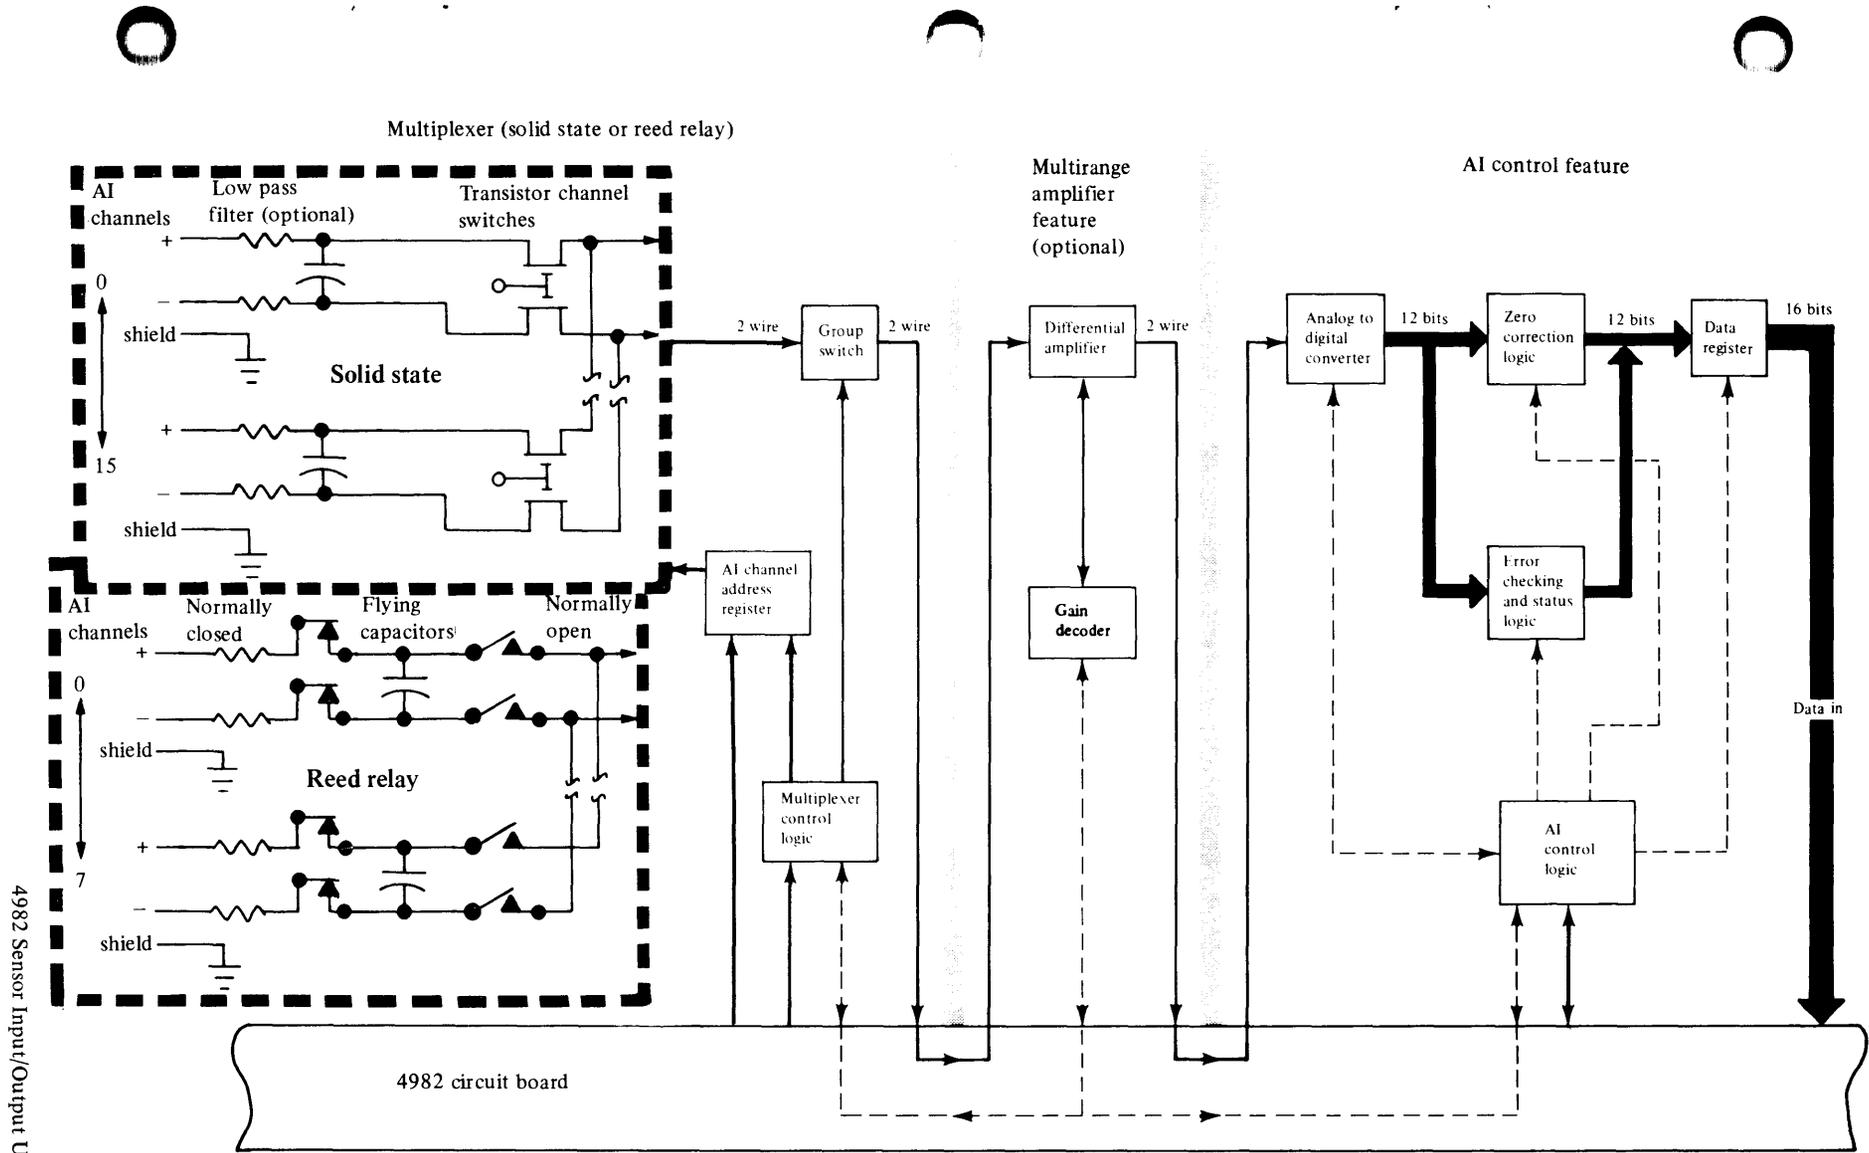

Figure 1-5. AI features
Analog input (AI) features (Figure 1-5) furnish AI control, analog-to-digital conversion (ADC), and AI signal multiplexing for the Series/1. AI features are grouped together because at least two features are required to perform any AI application—the AI control feature and a multiplexer feature. Basically the AI control feature consists of control and voltage conversion logic. The multiplexer feature (solid state or reed relay) selects the desired AI signal for conversion to a binary value. The multirange amplifier feature (a programmable, seven range amplifier) is optional. For definition of analog terms refer to Appendix A.